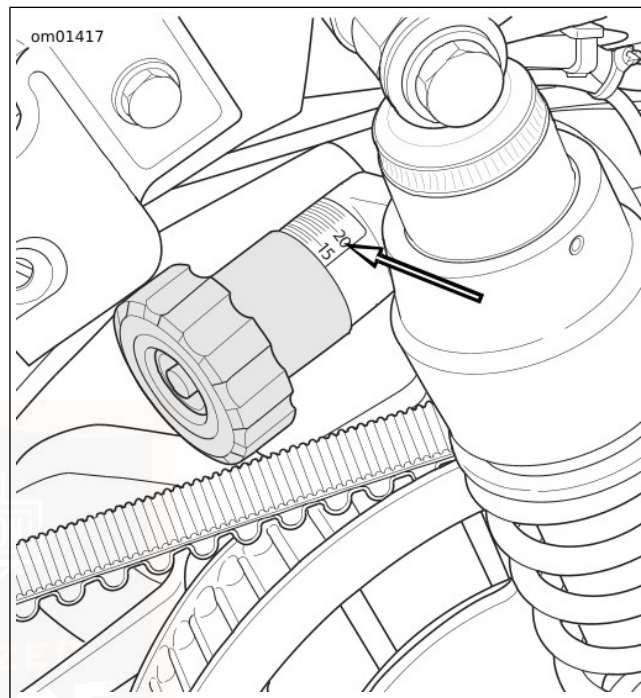

Figure 16. Preload Adjustment Knob
2. See Figure 16. Rotate the knob to the desired setting for the expected load. The knob will click after each half turn. Refer to Table 26, Table 27 or Table 28.